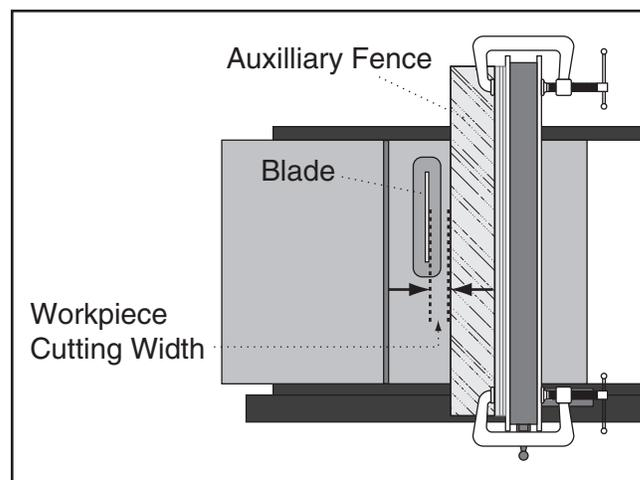

Figure 129. Example of adjusting ripping distance between blade and auxiliary fence.
- Place the auxiliary fence on the table and clamp it to the fence at both ends, then adjust the distance between the auxiliary fence and the blade—this determines how wide the workpiece will be ripped (see the example in **Figure 129**).